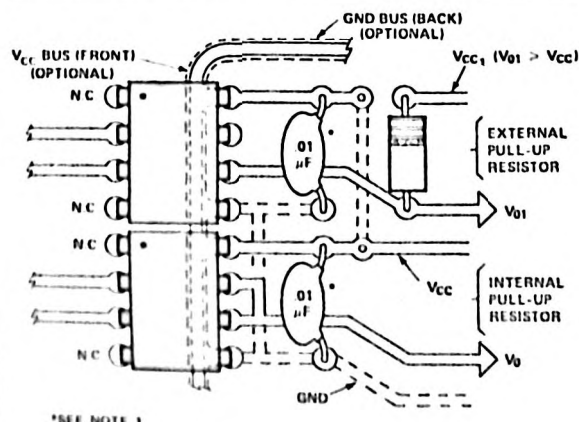

Figure 18. Recommended Printed Circuit Board Layout.
A recommended layout for use with an internal 1000 Ohms resistor or an external pull-up resistor and required V_{CC} bypass capacitor is given in Figure 18. V_{CC1} is used with an external pull-up resistor for output voltage levels (V_O) greater than or equal to 5 V. As illustrated in Figure 18, an optional V_{CC} and GND trace can be located between the input and the output leads of the HCPL-2300 to provide additional noise immunity at the compromise of insulation capability (VI-0).
1. Bypassing of the power supply line is required with a $0.01\ \mu\text{F}$ ceramic disc capacitor adjacent to each optocoupler as illustrated in Figure 18. The power supply bus for the optocoupler(s) should be separate from the bus for any active loads, otherwise a larger value of bypass capacitor (up to $0.1\ \mu\text{F}$) may be needed to suppress regenerative feedback via the power supply.